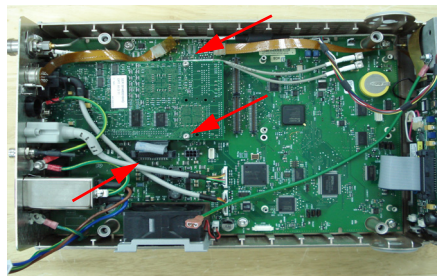

Figure 6-11 Remove PPMC
- Disconnect PPMC cables (Figure 6-11). Disconnect the service connector cable from the PPMC assembly. Disconnect the ribbon cable from the main board, whilst leaving it connected to the PPMC assembly.
- Remove the PPMC assembly (Figure 6-11). Use the T8 Torx screwdriver bit to remove the screws attaching the DAP and PPMC assemblies to the main board. Carefully remove the PPMC assembly by lifting the end closest to the DAP assembly. Carefully remove each DAP assembly by lifting the end closest to the rear panel.